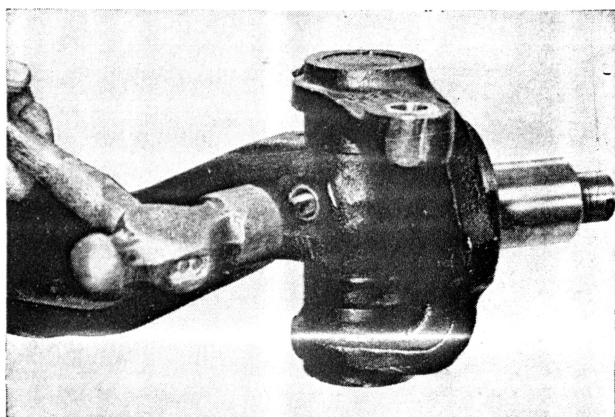

Fig. 34
G. Using proper wrench, remove steering knuckle pin draw key nut, then remove lock-washer, and drive draw key from the axle center. (Refer to Fig. 34.)